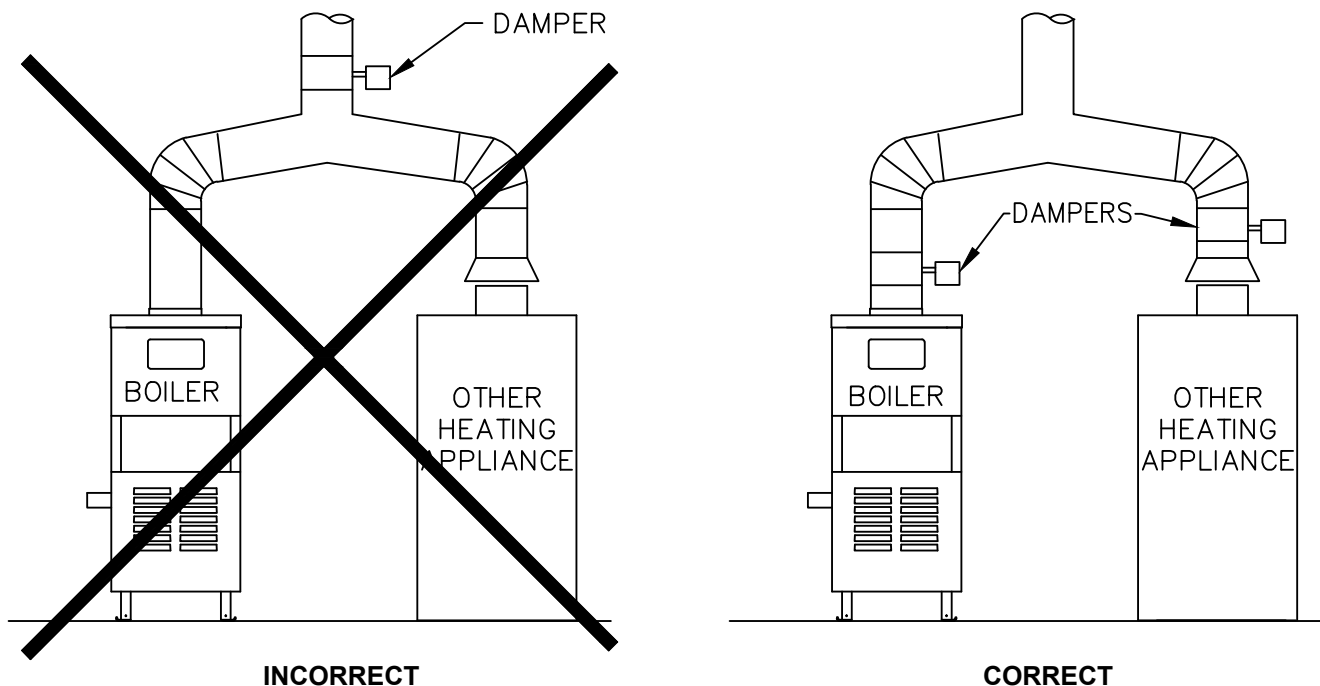

Figure 4.1: Venting Multiple Appliances
- Do not use one vent damper to control two or more heating appliances. See Figure 4.1.